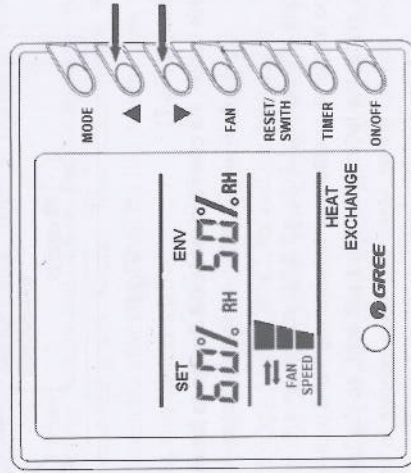

Fig.5
- 3) Humidity Adjustment (Fig.5)